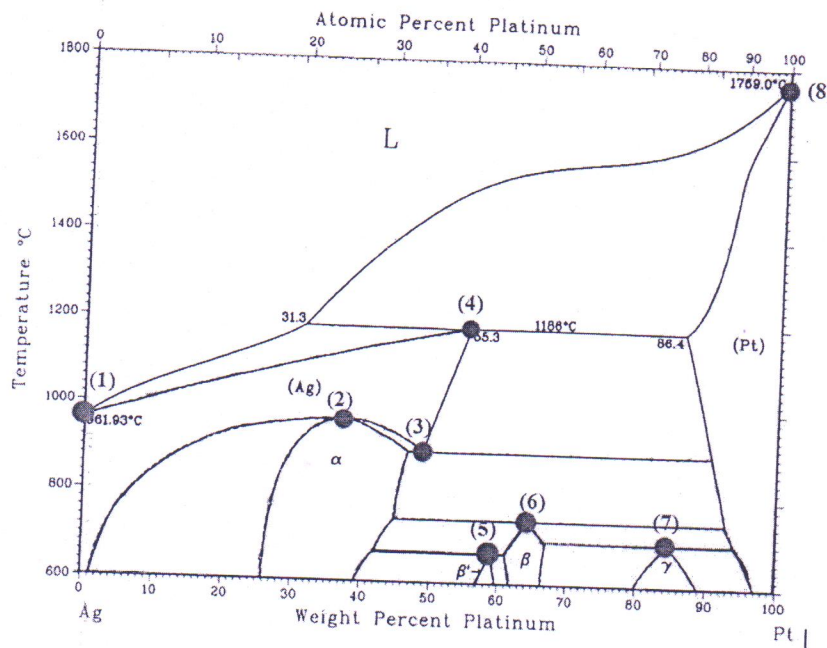

Figure-1
- Q.1:** (a) What are the possible factors that decide the formation of *substitutional solid solution*? (6)
- (b) Calculate the atomic density (number of atoms per unit area) on (111) planes of copper (FCC crystal structure) with the lattice parameter of 3.61 Å. (7)
- (c) Find the Millar indices of a plan that makes intercepts on a, b and c axes equal to 3 Å, 4 Å and 3 Å in a tetragonal crystal with c/a ratio of 1.5. (7)
- Q.2:** (a) Consider a tensile testing specimen of mild-steel which was subjected to the following two situations: During performing the tensile testing, load is released after some plastic deformation (just above the yield-point), and then tensile testing of the same specimen was carried out again after some days. Draw the schematic engineering stress-strain curves on the *same plot (graph)* for these two situations. (6)
- (b) How will you decide the edge and screw dislocations are positive or negative? (4)
- (c) The yield strength of a polycrystalline material increases from 120 MPa to 220 MPa, on decreasing the grain diameter from 0.04 mm to 0.01 mm. Find the yield stress for a grain size of ASTM 9. (10)
Q.3: (a) Using the phase diagram for Ag-Pt below (see Figure-1), write down all transformation reactions (indicated by points and numbers), and corresponding type of reaction that occurs on cooling.